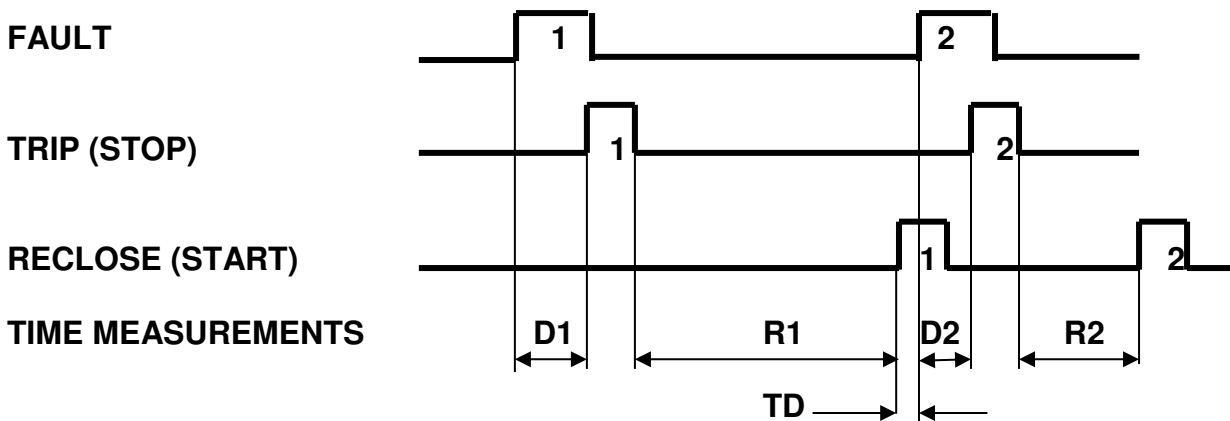

Figure 4: Measure of Delay and Reclose times
- Reclose test. It is possible to select via menu the test of a reclosing scheme. In this operating mode T3000 automatically applies current with a programmable delay TD after the RECLOSE command is sensed at START input. The test set measures and stores the trip delay and the delay between trip falling edge and RECLOSE trailing edge (see figure 4). Range of TD: from 0 to 999.99 ms. Maximum number of Reclose commands: 49; maximum test duration for all Reclose commands: 9999 s.